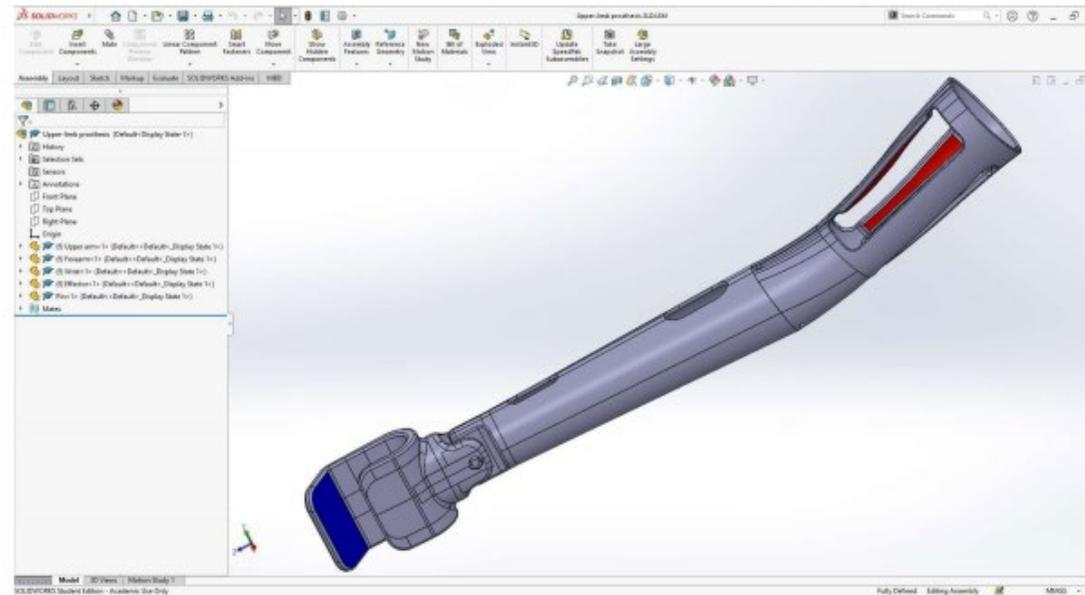

Figure 3: *Upper-limb prosthesis.SLDASM* model open in SolidWorks
a) Open the *Upper-limb prosthesis.SLDASM* model in SolidWorks (Fig. 3).